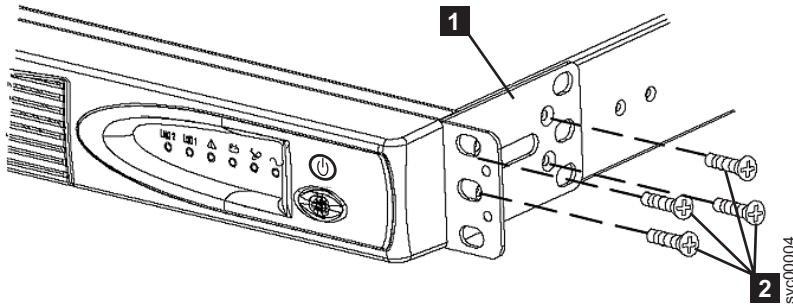

Figure 8. Installing the support rails for a 2145 UPS-1U into the rack
3. Attach the long side of a mounting bracket **1** to each side of the 2145 UPS-1U using four M3 × 6 screws **2** for each bracket, as shown in Figure 8.